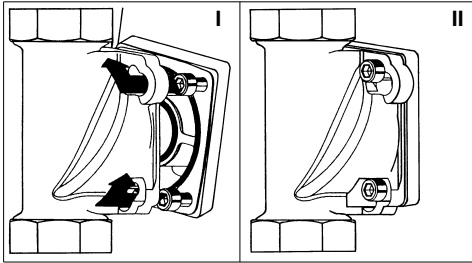

Fig. 2: Built-in rotary flange with bayonet fixture
- Insert the four flange screws in the bayonet drill holes on the built-in rotary flange (see fig. 2 I).
- Turn the domestic water station in a clockwise direction as far as it will go (see fig. 2 II).